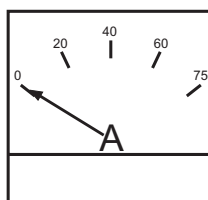

Figure 48. Ammeter (No Load)
12. The ammeter (Figure 48) will indicate zero amps with no load applied. When a load is applied, this meter will indicate the amount of current that the load is drawing from the generator's alternator.